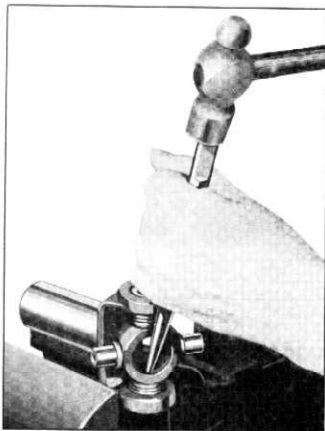

Fig. 23—Disassembly of Universal Joint
2. With yoke supported in a bench vise, drive on the center of the trunnion with a drift punch to remove rear trunnion bearings (fig. 23).